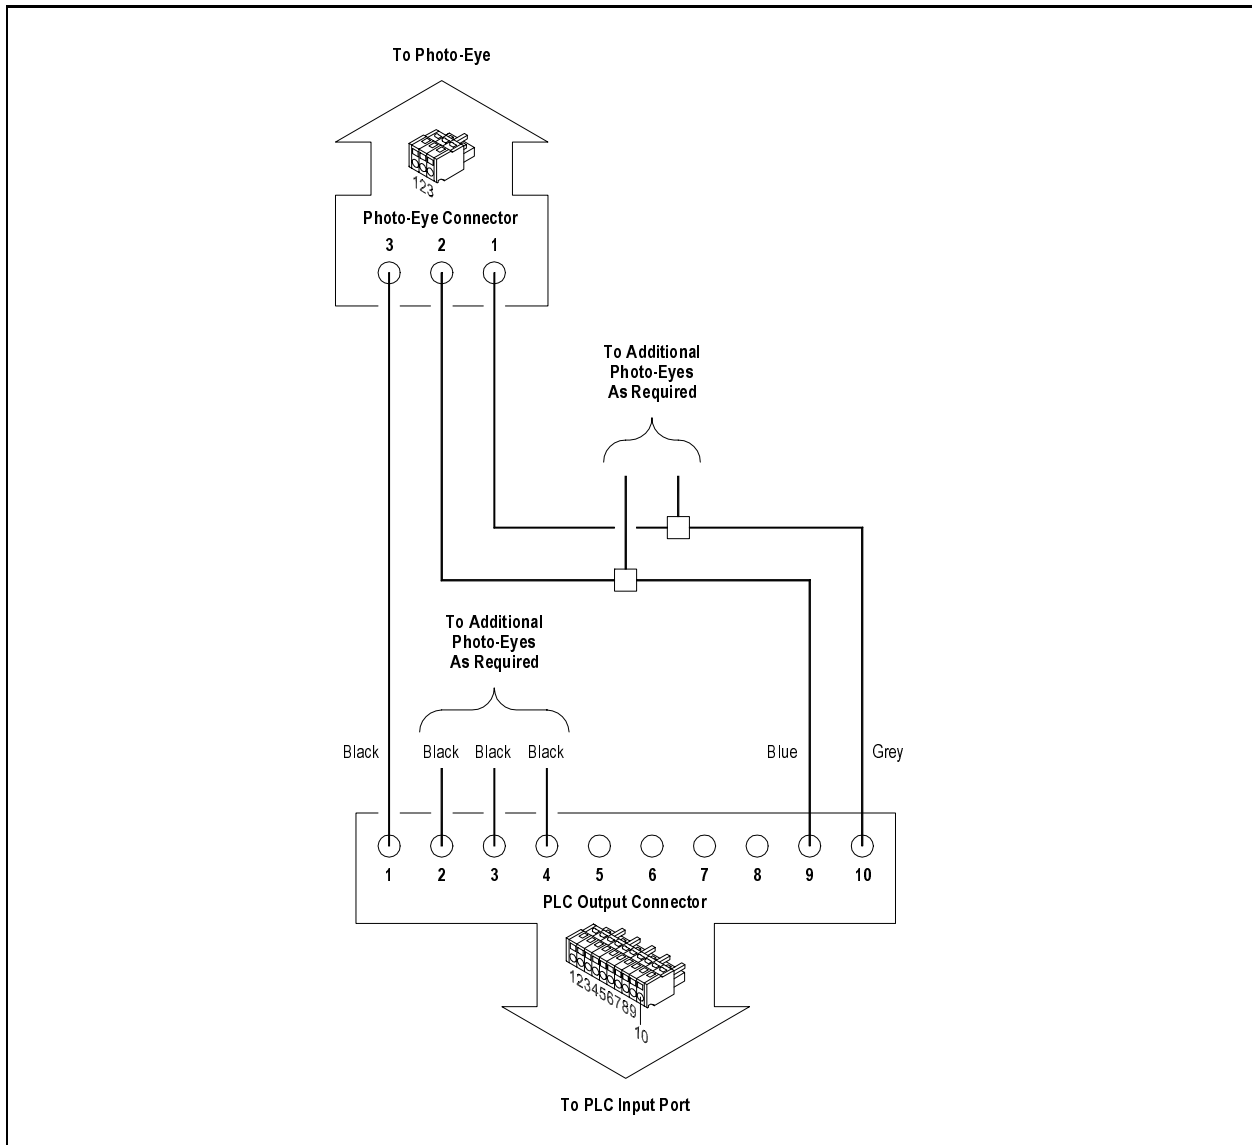

Figure H.9 – Wiring Connectors on a Photo-Eye Harness
- Photo-Eye Harness (see Figure H.9)